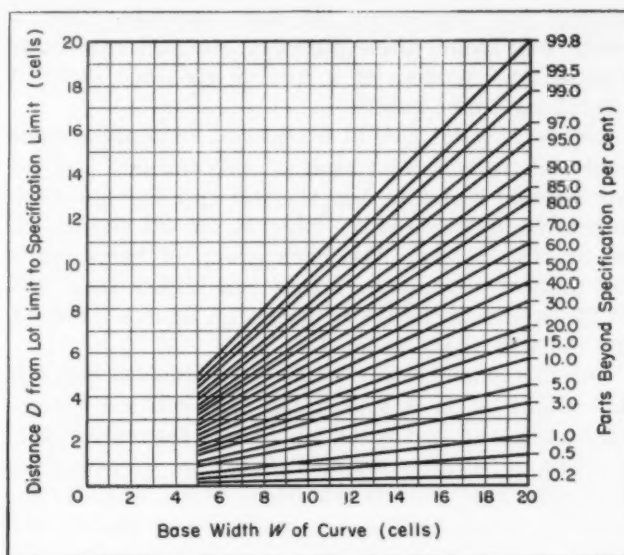

Fig. 33—A chart for finding the percentage of a normal curve that is made up of defective pieces
tribution but a portion of it extends beyond a specification limit. By counting the number of cells in the distance  $D$  and in the base width distance  $W$  and entering these results in the chart of *Fig. 33*, from the right-hand side of the labelled slanting lines can be read the percentage of the entire lot that can be expected to be beyond that specification. This Lot Plot can be then reviewed for disposition as accept, return to source, screen, rework, or scrap.
3. From *D* and *W* read off from *Fig. 33* that the lot would be 25 per cent defective if it had filled out into a complete normal curve
5. Multiply the *Fig. 33* percentage by this factor,  $0.96 \times 25$  per cent = 24 per cent. This value is marked in the appropriate block at the bottom center of the Lot Plot form as being the percentage of the lot that is beyond the specification in question.
If the lot limit at the cut-off side of the distribution lies beyond the specification limit, it is not certain how much of the distribution may or may not be defective. It is known that it is no greater than that found if the tail filled out. So again with the count of distance  $D$  on the cut-off side and distance  $W$ , which is already known, the maximum percentage can be read directly from *Fig. 33* without finding an adjustment factor.
Type *d* is half or a little more than half a distribution, such as is formed by concentricity, squareness or parallelism specifications. The 0 at the bottom stands for the cell boundary corresponding to zero full indicator reading while the tail extends on out to so many tenths or thousandths of an inch, full indicator reading. Again mark the mode cell and use the method of analysis described for type *c*, including the factor to modify the Fig. 33 percentage if the lot limit is found to be beyond the specification limit.
In type *E* two or more distributions are indicated. An additional sample can be taken, if necessary, or the cell interval distance changed where required to give at least 25 readings from each external mode out toward the tail, if it is expected that a lot limit will be found to be beyond a specification limit. If not, no lot limits need to be computed and the characteristic can be considered acceptable. When computing lot limits, the method described for type *c*, for locating the lot limits from the modes that are closest to the specification limits, should be used along with the factor for modifying the Fig. 33 percentage at each end that might be defective.